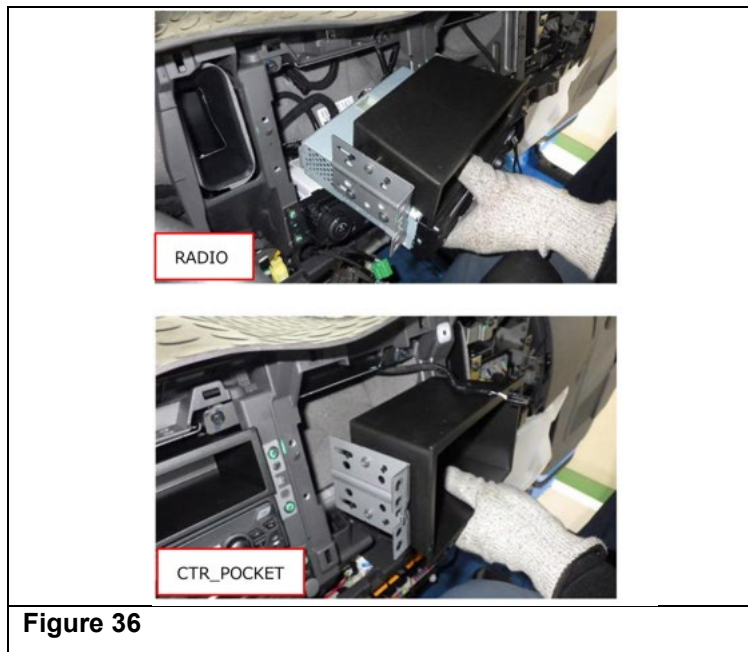

Figure 36
39. Disconnect and remove the radio, HVAC unit and the center pocket. (See Figures 36 and 37.)